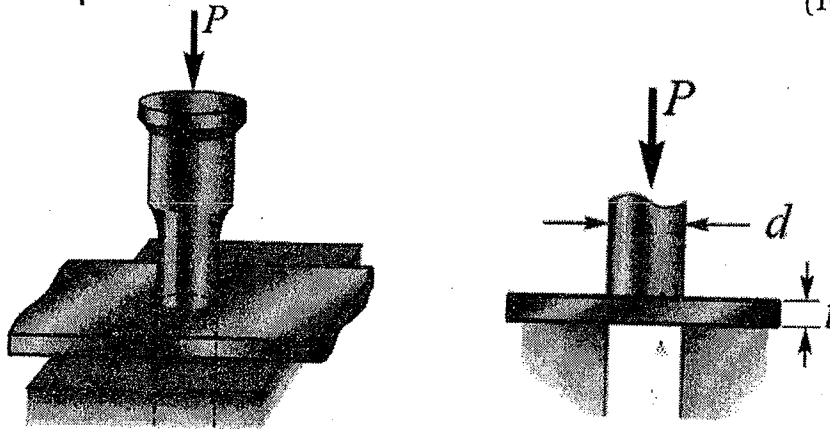

Figure 4
- a. A punch for making holes in steel plates is shown in figure 4. Assume that the punch has a diameter of 19mm is used to punch a hole in a 6mm plate as shown in the cross sectional view. If a force $P=125\text{kN}$ is required what is the average shear stress in the plate and average compressive stress in the plate.